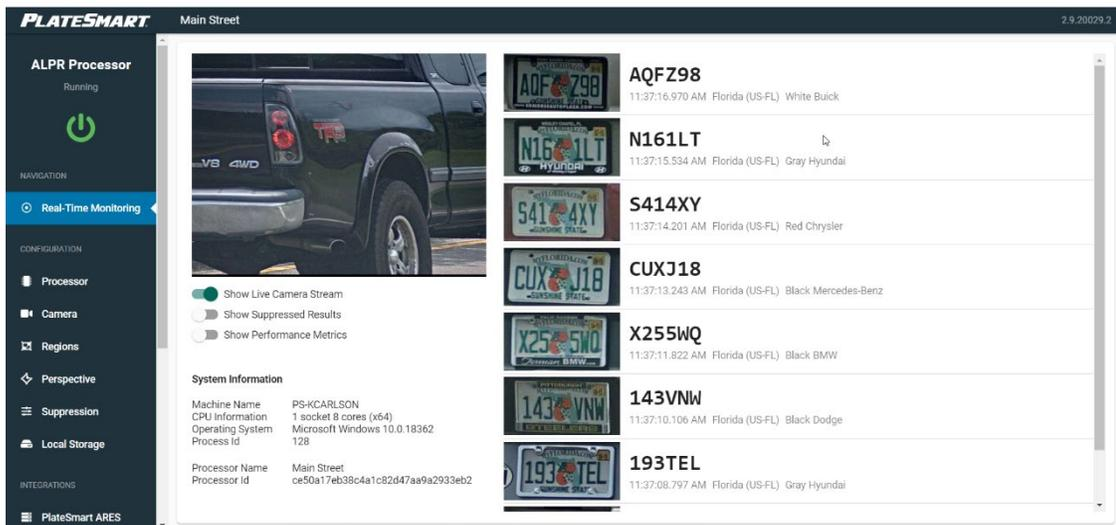

Figure 8
- b. Show live camera stream: turn this switch on to view the live camera stream. As vehicles pass the camera, you should see their plate and vehicle information captured to the right of the monitoring window (Figure 8).